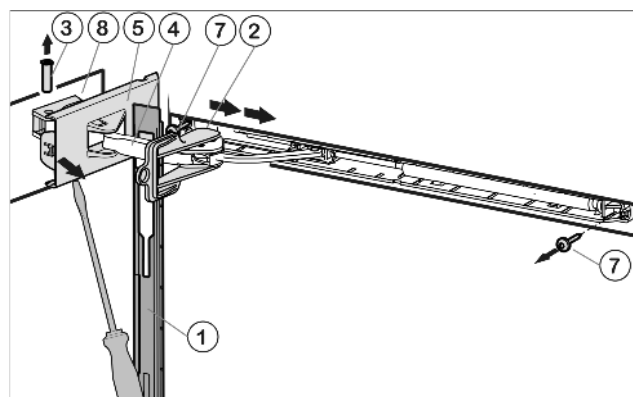

Fig. 5
- ▶ Slide the faceplate forwards over the soft stop bracket Fig. 5 (4) in the direction of the appliance.
- ▶ Snap the safety lock Fig. 5 (2) into the oblong hole.
- ▶ Using a screwdriver, detach the cover Fig. 5 (5) on the hinge side as far as the first detent.
- ▶ Press the pin *Fig. 5 (3)* out from underneath.
- ▶ Press the soft stop bracket *Fig. 5 (4)* towards the door.
- ▶ Fully detach the cover *Fig. 5 (5)* on the hinge side and remove it.
- ▶ Remove the faceplate *Fig. 5 (1)*.
- ▶ Unscrew the soft stop unit (2x Torx® 15) *Fig. 5 (7)*.
- ▶ Unscrew the bearing element *Fig. 5 (8)*, turn it 180° and transfer it to the opposite side. Possibly make preliminary holes with a bradawl or use a cordless screwdriver.